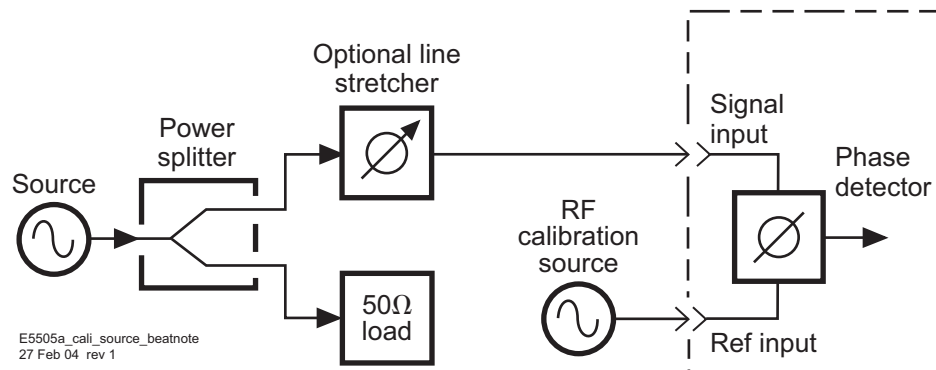

Figure 155 Calibration source beatnote injection
- 3 Locate the power level you measured on the left side of the Phase Detector Sensitivity Graph (Figure 155 on page 225). Now move across the graph at the measured level and find the corresponding Phase Detector constant along the right edge of the graph. This is the value you will enter as the Current Detector Constant when you define your measurement. (Note that the approximate measurement noise floor provided by the Signal Input port level is shown across the bottom of the graph.).
- 3 Measure the output power at the side of the power splitter where the calibration source will be substituted, then terminate in 50 ohms. See Figure 155 on page 225.